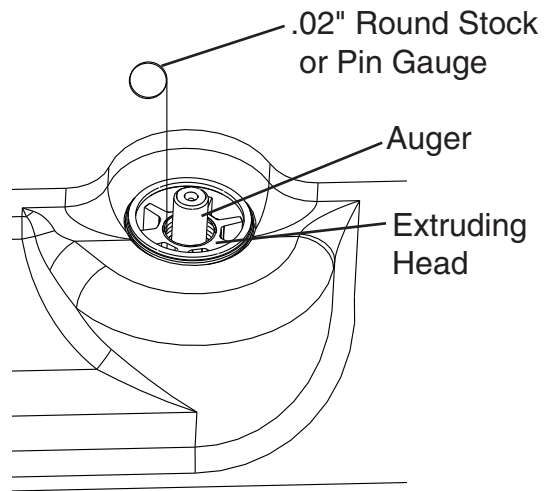

Fig. 7
- 7) Grasp the top of the auger and move the auger towards you and then try to insert a .02" round stock or pin gauge in between the back side of the auger shaft and the bearing surface. See Fig. 7. Check several locations around the auger shaft. If the gauge goes between the shaft and the bearing at any point or if the bearing is scratched or cracked, both the top bearing in the extruding head and the lower bearing in the housing should be replaced. Instructions for removing the extruding head and housing are located later in this procedure.